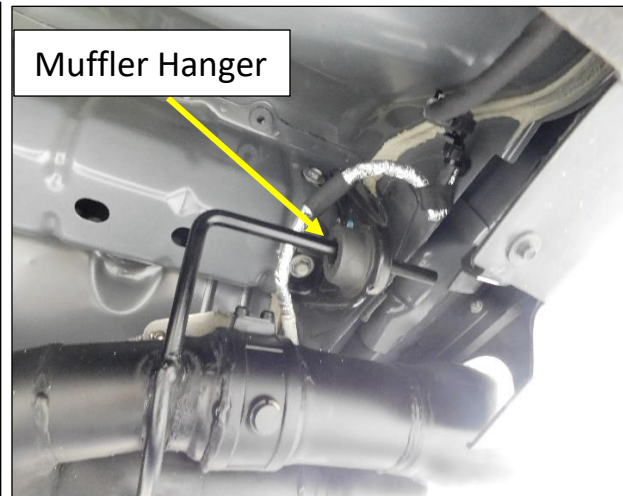

Figure 9
8. Install the OEM muffler hanger assembly onto the Flowmaster Muffler hanger rod, rotate into position and clip the tab into the frame rail. Install the (x2) mounting bolts **Fig.9**